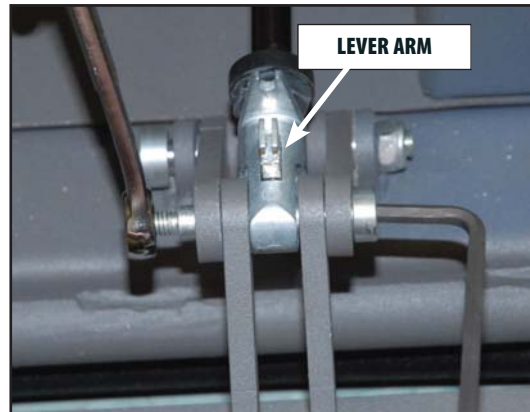

FIGURE 6.4
6. Using a 5 mm Hex and a 13 mm Combination Wrench, remove the remaining Shoulder Bolt and Nut securing the bottom of the Gas Spring to the Frame. Refer to **Figure 6.4**.